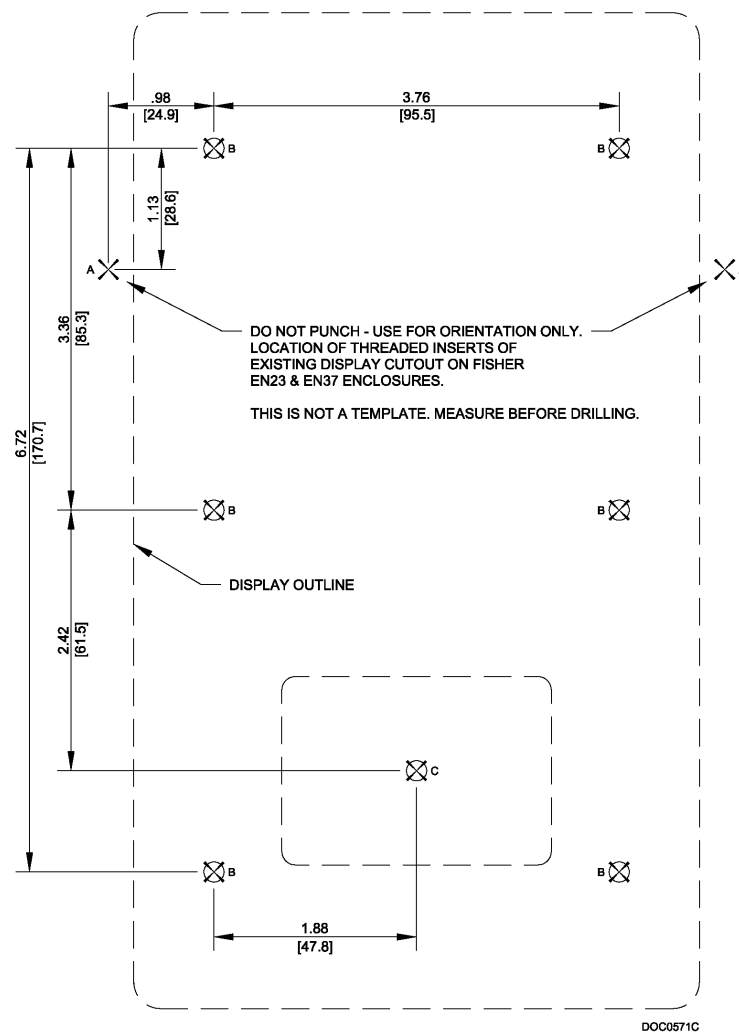

Figure 2-1. Keypad Display Installation Template (not to scale)
1. Copy *Figure 2-1* to a sheet of paper that you can discard when finished. Reduce or enlarge the drawing until *Figure 2-1* is to scale.
2. Attach the sheet of paper with *Figure 2-1* correctly sized to the enclosure. Position the paper so that the line marked **3.76 [95.5]** is towards the top of the enclosure. If you are installing on an EN23 or
4. Remove the sheet of paper with *Figure 2-1* and drill 5.6 mm (0.219 inch) diameter holes at six locations marked **B**.